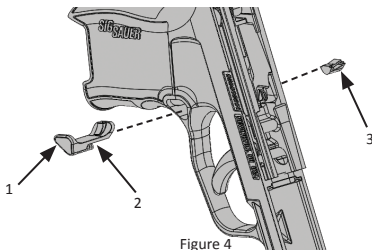

Figure 4
6. Insert the magazine catch (Figure 4, Item 1) and the spring (Figure 4, Item 2) into the desired side of the grip module and completely depress the magazine catch.
7. Insert the magazine catch stop (Figure 4, Item 3) into the magazine catch until it snaps into place. Release the magazine catch.